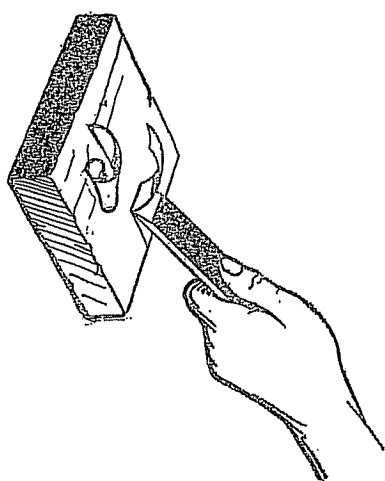
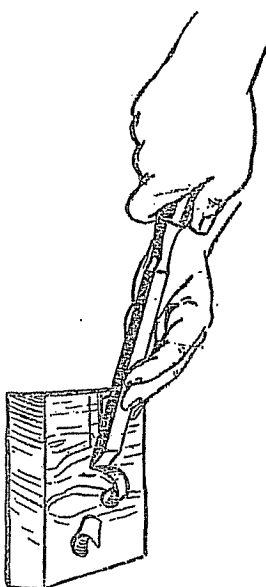

Fig. 5
Fig. 6
**SIDEWISE CHISELING.** Method of holding is the same as in paring. (See Fig. 5 and Fig. 6.)